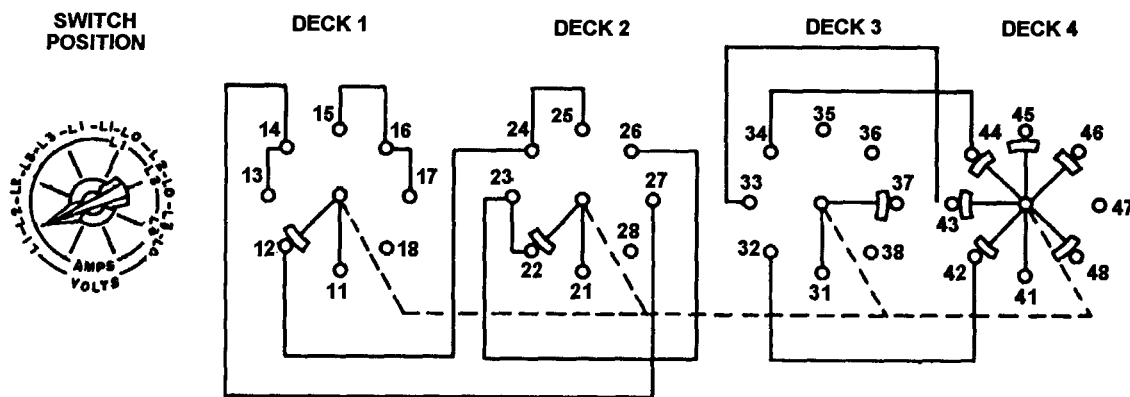

Figure 4-39. Volts-Amps Transfer Switch Schematic Diagram
- (c) Remove nut (39) to remove switch (40) from panel.
- (2) Cleaning and Inspection.
(3) Testing.
- (b) Check switch for continuity with a multimeter using schematic of Figure 4-39 as a guide.
The wiper contacts shown in Figure 4-39 rotate clockwise to the next set of stationary contacts when the switch shaft is rotated clockwise to the next position.